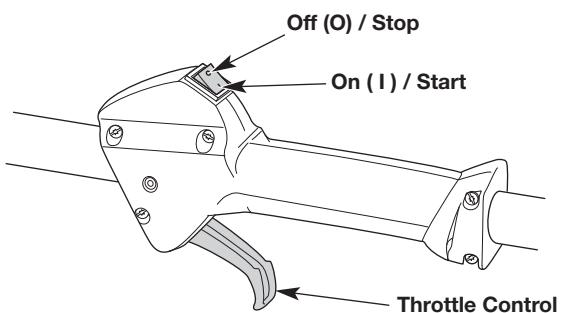

Fig. 9
- NOTE:** There is no need to turn the unit on. The On/Off switch is in the ON (I) position at all times (Fig. 9).
5. Squeeze and hold the throttle control (Fig. 9).
2. Press and hold the On/Off switch in the OFF (O) position until the engine comes to a complete stop (Fig. 9).
6. Squeeze and hold the throttle control (Fig. 9).